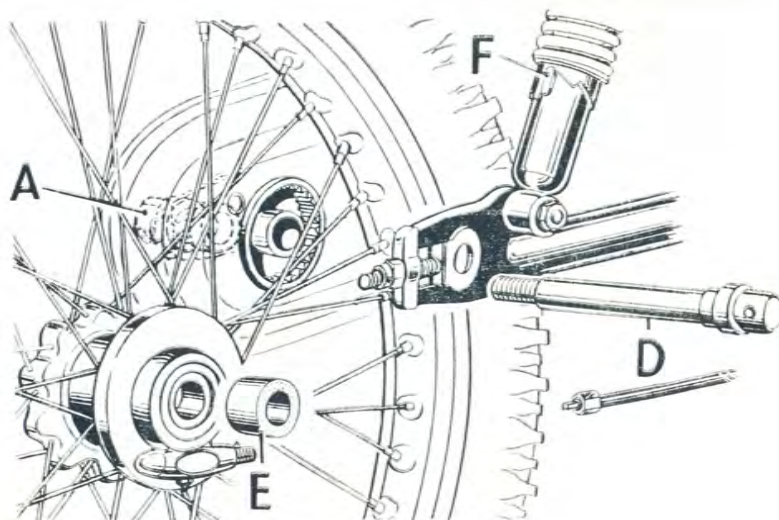

FIG. 27. Removal of the rear wheel.
Removal of the rear wheel does not affect the chain or brake adjustment. Disconnect the speedometer driving cable at the hub and unscrew the spindle (D) Fig. 27, from the right-hand side. It has a normal right-hand thread, and therefore unscrews in a counter-clock direction. It is also drilled to accept a tommybar to facilitate withdrawal. The spacing sleeve (E) between the speedometer drive and the fork end can then be removed and the wheel pulled away from the brake drum and withdrawn from the machine. When detaching